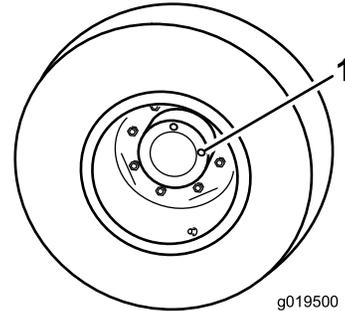

Figure 66
1. With machine on level surface, position the wheel so one check plug (Figure 66) is at the 12 o'clock position and the other is at 3 o'clock position.
1. Check/drain plug (2)
2. Remove the plug at the 3 o'clock position (Figure 66).